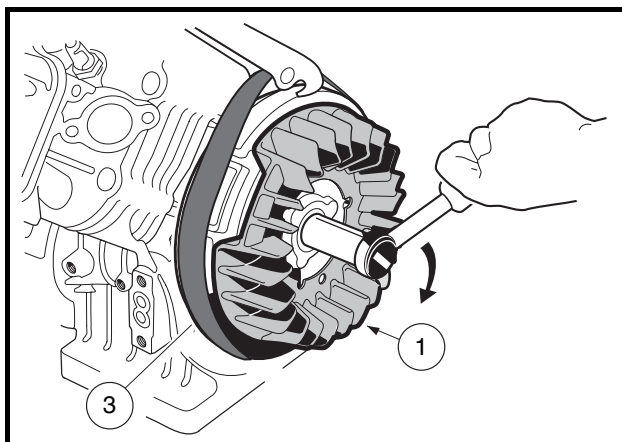

Figure 15-11 Fan and Flywheel Installation
2. Use a strap wrench (3) to keep the flywheel and fan assembly (1) from turning while tightening the flywheel nut to 63 ft-lb (85.4 N·m) (Figure 15-11, Page 15-8). See following CAUTION.